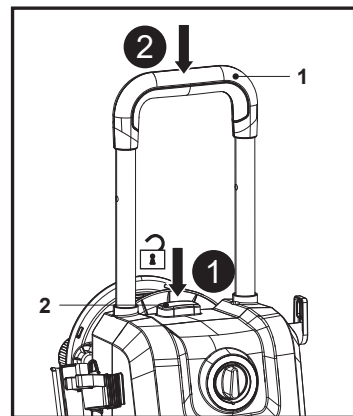

Fig. 17
2. Press and hold the handle lock button (2), then press the transport handle (1) to retract it (Fig. 17).